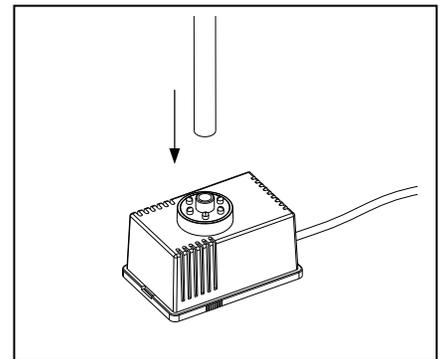

Fig. 1
1. Connect the extension tubes to the pump. Fig. 1